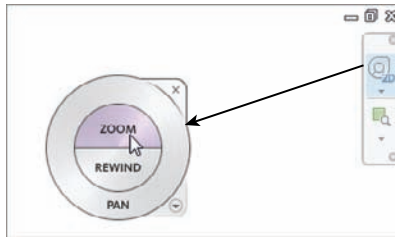

FIGURE 1.37 You can use the steering wheel to navigate through a view.
1. Go back to Floor Plan Level 1, and pick the steering wheel icon from the Navigation bar, as shown in Figure 1.37.
2. When the steering wheel is in the view window (as illustrated in Figure 1.37), left-click and hold Zoom. You can now zoom in and out.